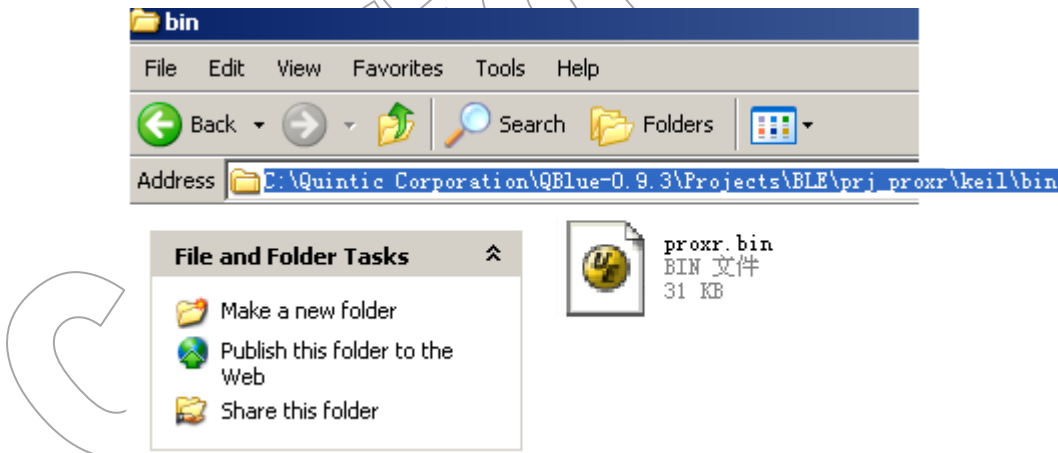
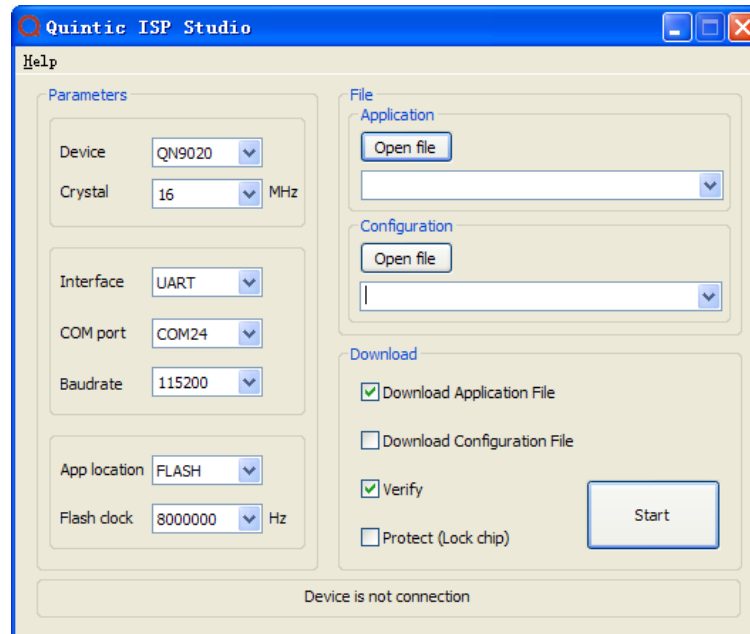

Figure 22 Location of proxr.bin File
Figure 24 How to setting Quintic ISP Studio
When you see “.\obj\proxr.axf = 0 Error(s), 0 Warning(s)”, it means the compiling has finished. Then you can download .bin file which is named as “proxr.bin”. By default, the file is located at “C:\Quintic Corporation\QBlue-x.x.x\Projects\BLE\prj_proxr\keil\bin”, as shown in Figure 22.
As shown in Figure 24, use “Open file” to locate the bin file and choose “proxr.bin”. The path of proxr.bin is shown in Figure 22. Once the settings for the interface and port are as mentioned above, please click the “Start” button.
4. Make sure the com port setting is right. You can see com port setting in Figure 24 (in this figure, the com port is COM24).